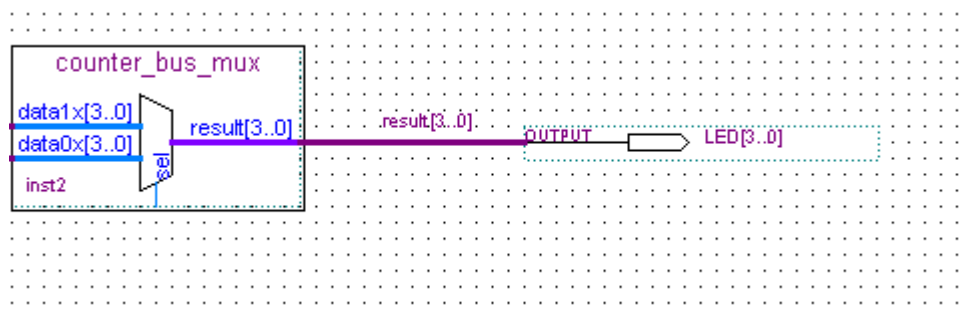

Figure 3-28 Rename the output pin
18. Rename the output pin as LED [3..0] as described in steps 13 c and d. (see **Figure 3-28**).